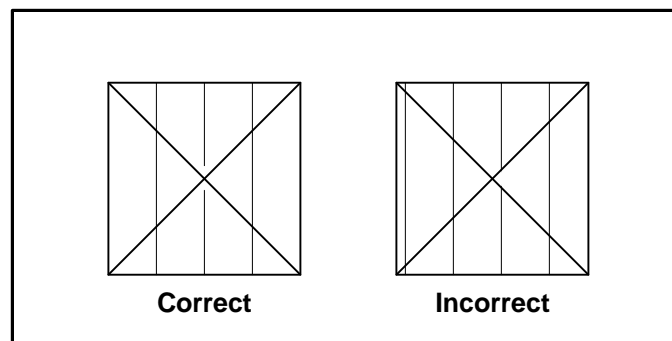

Figure 3-4 Grid Position
2. Using a felt tip pen, draw diagonal lines from corner-to- corner on the picture of the test target (Figure 3-4).